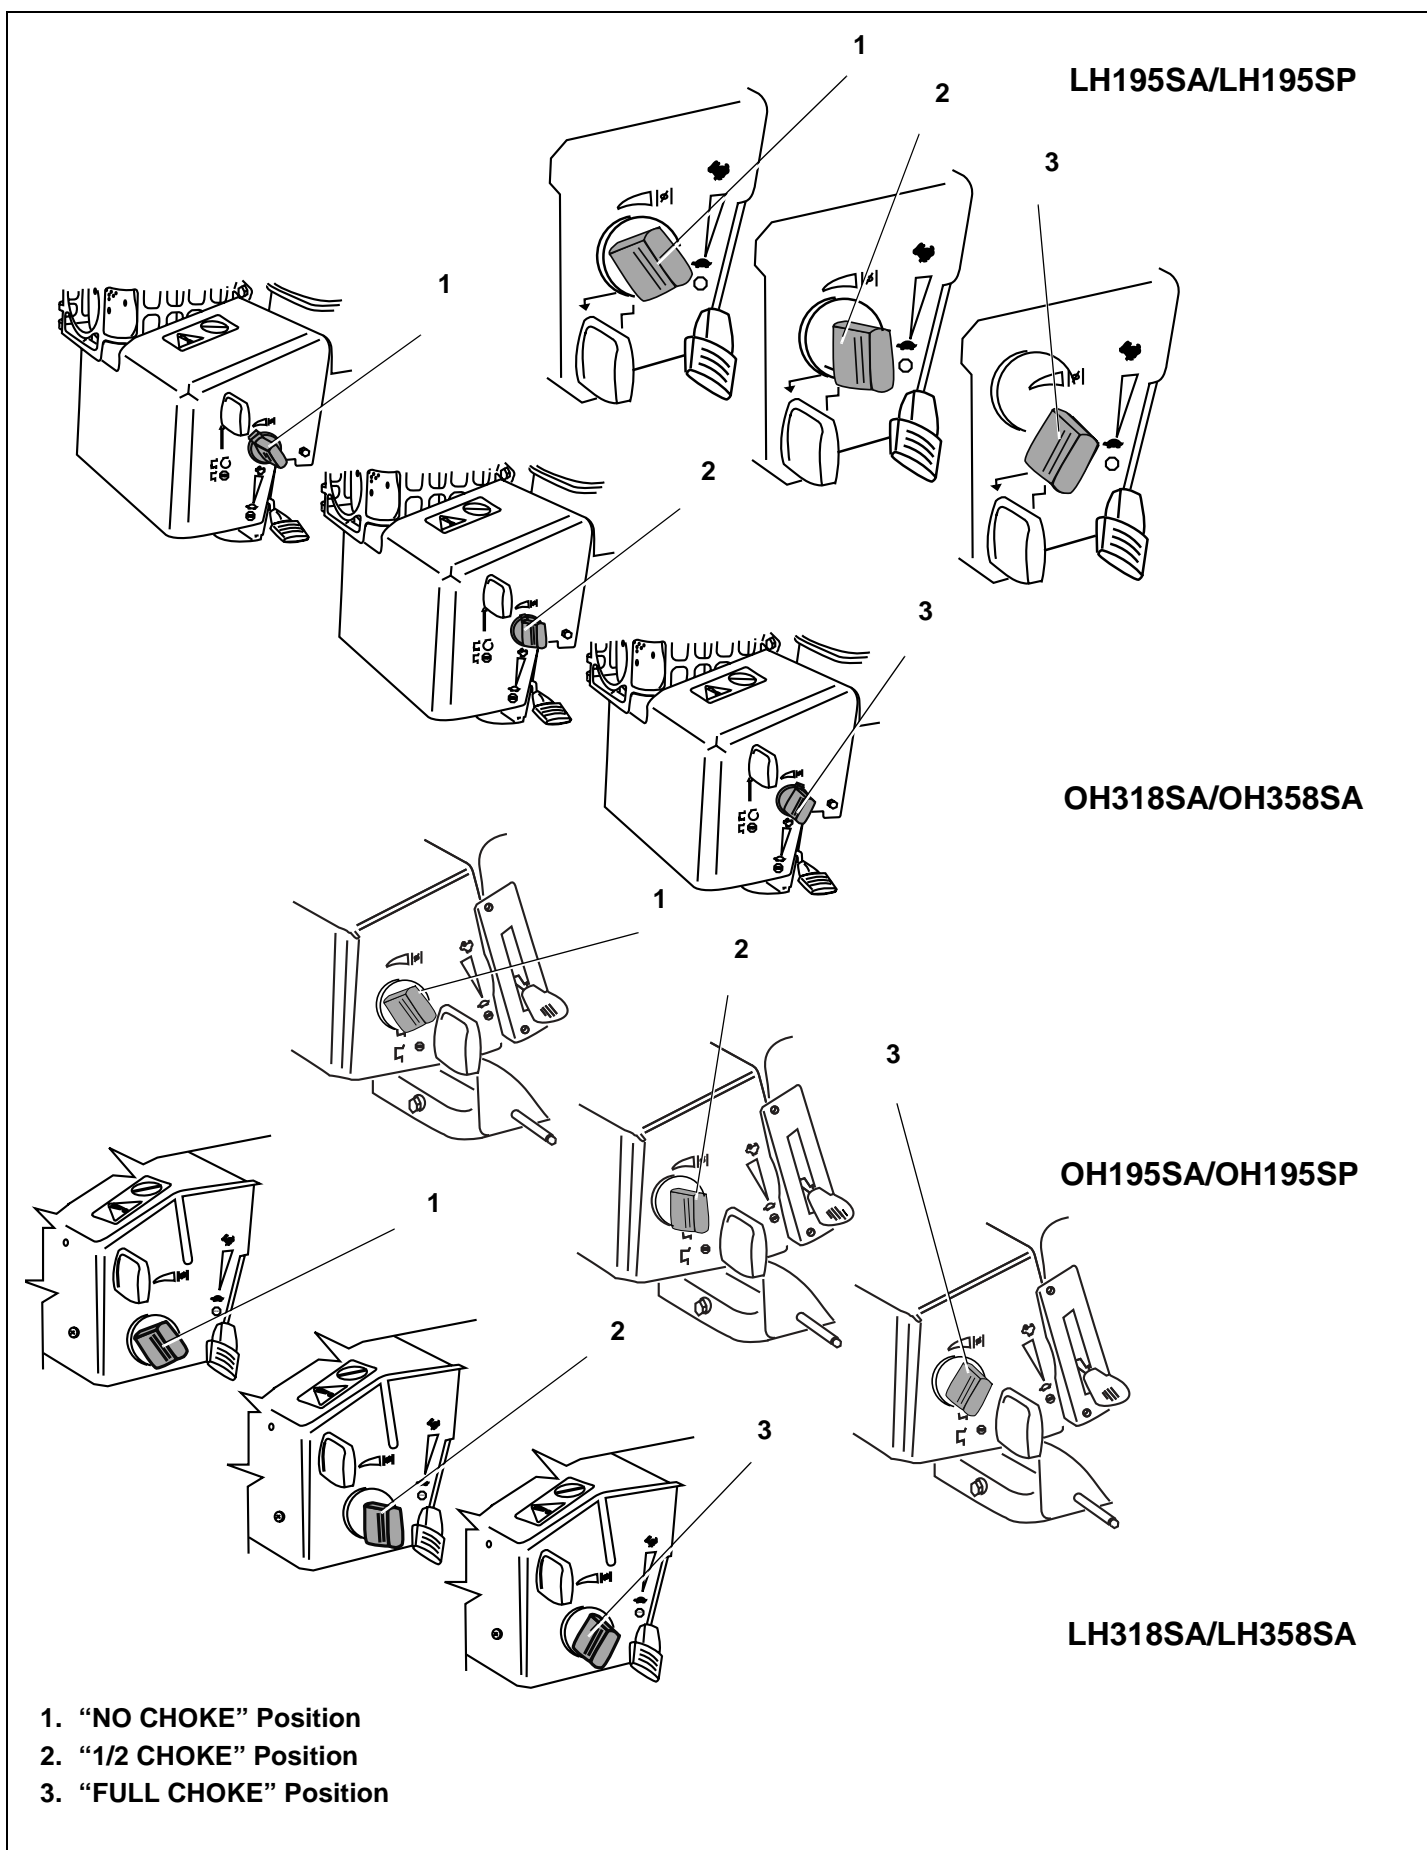

Figure 24. Choke Control Positions
6. Set choke control to "FULL CHOKE" position (see equipment manufacturer's instructions). See Figure 24 on page 12. Afterward, continue reading instructions below.
- b. Momentarily move choke control to "1/2 CHOKE" position until engine runs smoothly. See Figure 24 on page 12. Afterward, continue reading instructions below.
11. If engine fires but does not continue to run, move choke control to "NO CHOKE" position and start engine. See Figure 24 on page 12. Afterward, continue reading instructions.
4. Set choke control to “FULL CHOKE” position (see equipment manufacturer's instructions). See Figure 24 on page 12. Afterward, continue reading instructions below.
If restarting a warm engine after a short shutdown, move engine speed control to “FAST” position and move choke control to “NO CHOKE” position. See Figures 24, 26 and 27 starting on page 12. Afterward, continue reading instructions below.
- a. Momentarily move choke control to "1/2 CHOKE" position until engine runs smoothly. See Figure 24 on page 12. Afterward, continue reading instructions below.
9. If engine fires but does not continue to run, move choke control to "NO CHOKE" position and start engine. See Figure 24 on page 12. Afterward, continue reading instructions below.
3. Move engine choke back and forth several times and leave in the "FULL CHOKE" position. See Figure 24 on page 12. Afterward, continue reading instructions below.